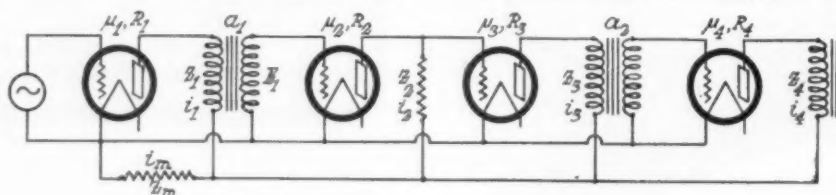

Fig. 5. Detector and Three-Stage A.F. Amplifier.
One more circuit, as shown in Fig. 5, is of interest in connection with this discussion, chiefly because it was used to test the theory qualitatively. The audio frequency amplifier and the detector tube only are shown, although the circuit was a complete five-tube regenerative receiver. It was built by the writer with the greatest care to obtain sensitivity and good quality. It turned out to be an erratic oscillator. Sometimes when it was on good behavior, it performed as well as had been hoped for. Much of the trouble experienced with it could have been avoided had the circuit been analyzed by the method employed in this article, but then much about circuits in general would have remained unknown to the writer. It is not necessary here to go through with the analysis, though it is very simple in this case, but only to set down the result. It is even not necessary to set all of that down, but only the denominator in the expression for amplification, or in the expressions for the various currents. It is (36) $D=r_1 r_2 r_3 r_4 - a_1 a_2 \mu_2 \mu_3 \mu_4 Z_1 Z_2 Z_3 Z_m$, in which $r=R+Z$, the appropriate subscript being used in each case.
In this circuit, Fig. 5, only one 45 volt unit was common to all the audio tubes. When this was new the set would not oscillate. However, when a 10 ohm resistance was inserted in the common lead, the amplifier oscillated violently. When a separate battery was used for the detector and the preceding tubes, the set behaved properly even when this battery was relatively exhausted, because the last two tubes cannot oscillate when a_2 is negative.